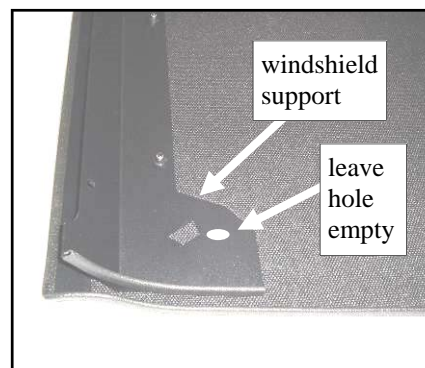

Fig. 4.2 (enlarged view of front right corner)
4.2 Per figures 4.2, loosely assemble the roof and windshield support using four 5/16-18 x 1" long button head bolts, four plastic washers, eight 5/16" steel washers, and four locknuts. Do not install bolts in the two outer rear holes (one per side) as these will be used at a later time. The nuts should just be finger tight at this time.